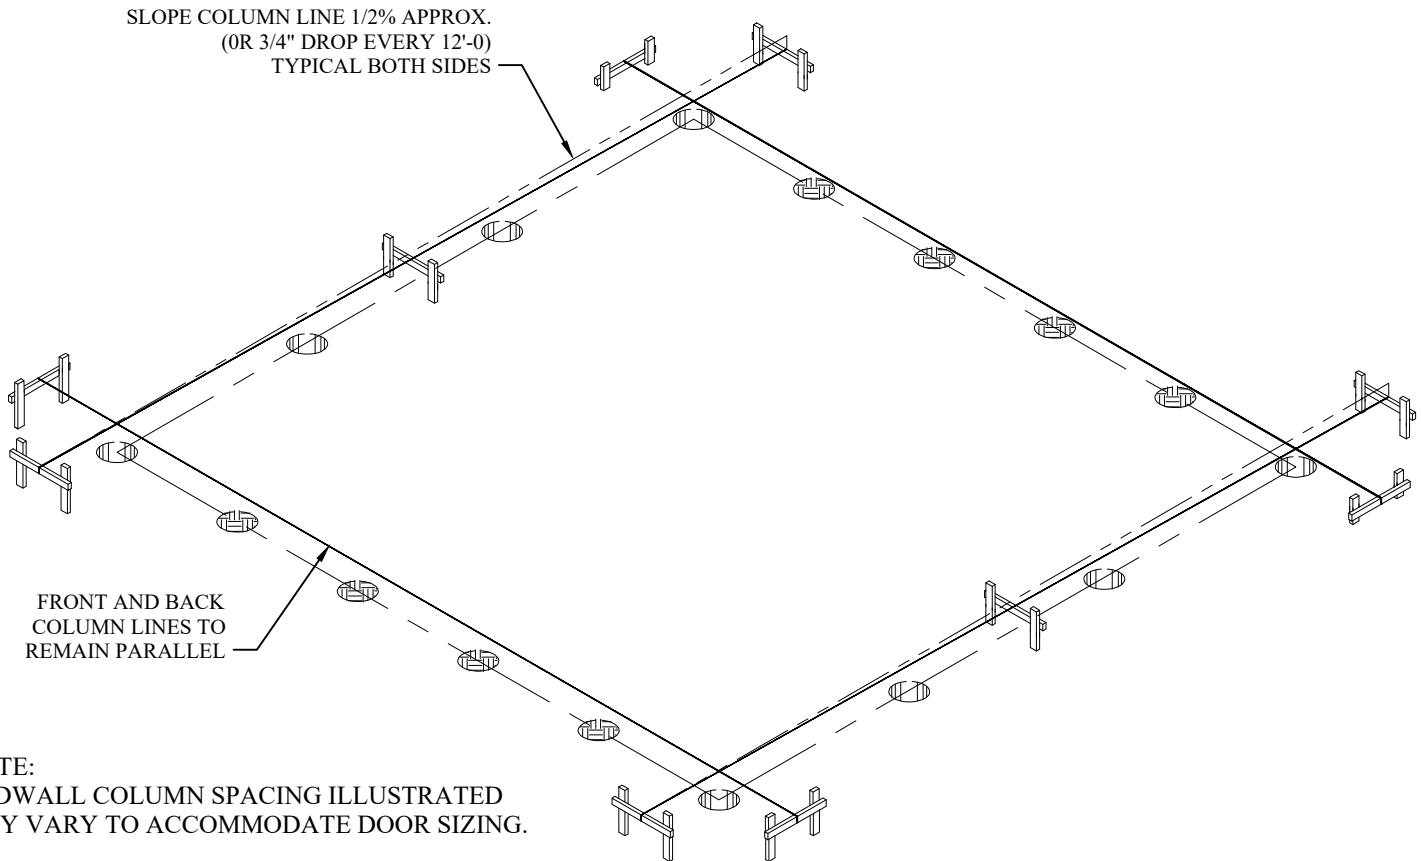

FIGURE 9 - SLOPING COLUMN LINES
4. AFTER DIGGING THE HOLES FOR END WALL UP RIGHTS, REFILL LOOSELY WITH DIRT, UNTIL READY FOR USE, (SEE FIGURE 9-PAGE 7).